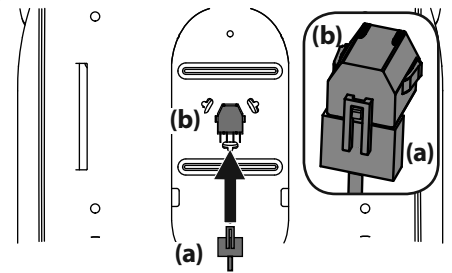

Figure 6
- If necessary, securely connect the seat switch wiring harness (a) to the seat switch (b). See Figure 6. Secure excess wire away from pinch points before continuing.